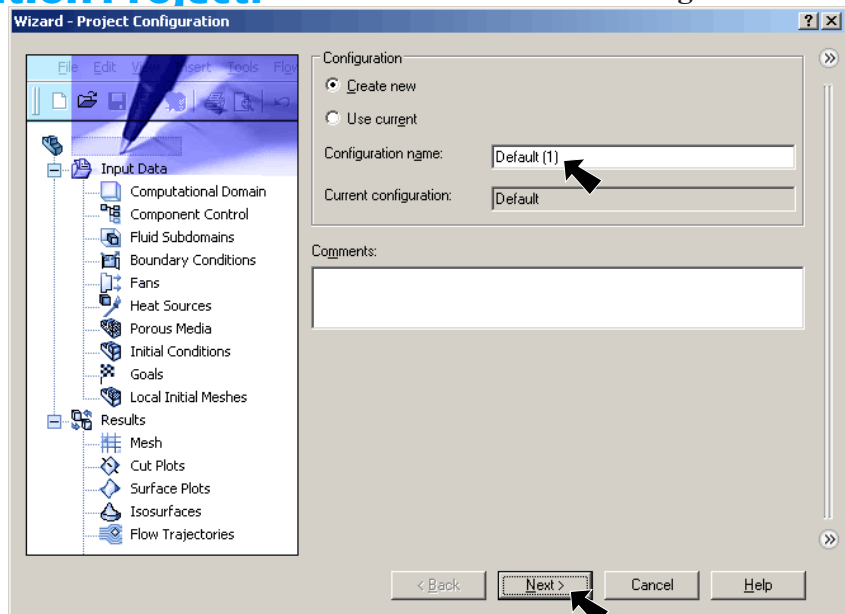

Fig. 2
- Step 3. Use **Default** for Configuration name, **Fig. 2**.